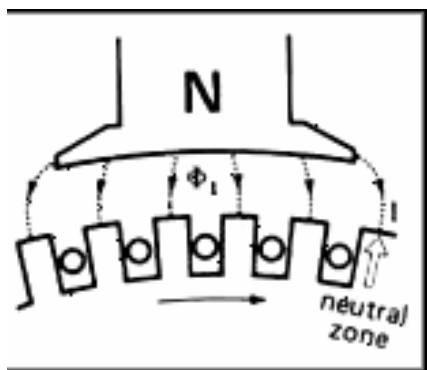

Fig. 1 Motor running at no-load.
- Under no-load conditions, the small current flowing in the armature does not appreciably affect the flux coming from the stator poles (Fig. 1).